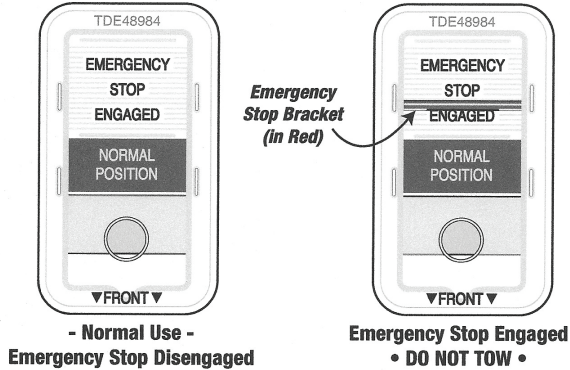
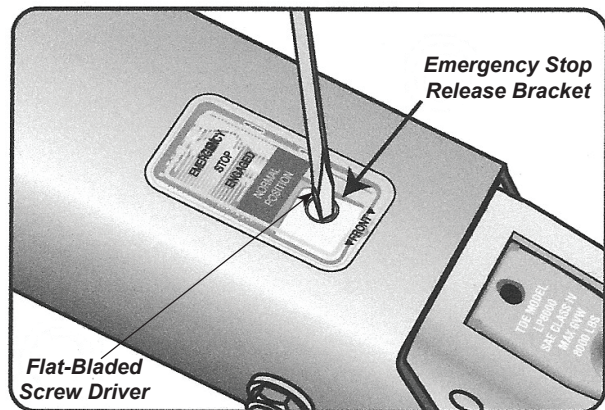

Figure F14: Emergency Break-Away System - Normal Use & Emergency Stop Indicator Positions
Figure F15: Emergency Break-Away System - Manual Release
Note that the actuator's emergency stop is not engaged. Refer to Figure F14. To manual release the emergency stop refer to Step 8 and Figure F15.
8. If the break-away system is accidentally applied while unhitching, Press down the emergency stop release bracket with a screwdriver the E-stop bracket snaps back into the "NORMAL POSITION". See Figure F15.